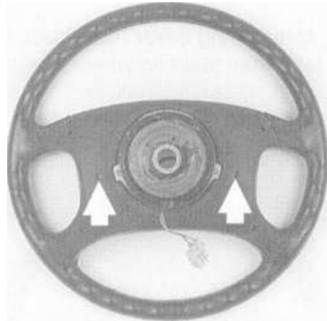

Fig. 3. Driver's side airbag unit mounting screws (arrows)
4. Working behind steering wheel, completely loosen Torx screws (T30 or T27) while holding airbag in place. See Fig. 3. Support airbag unit to prevent it from falling out.